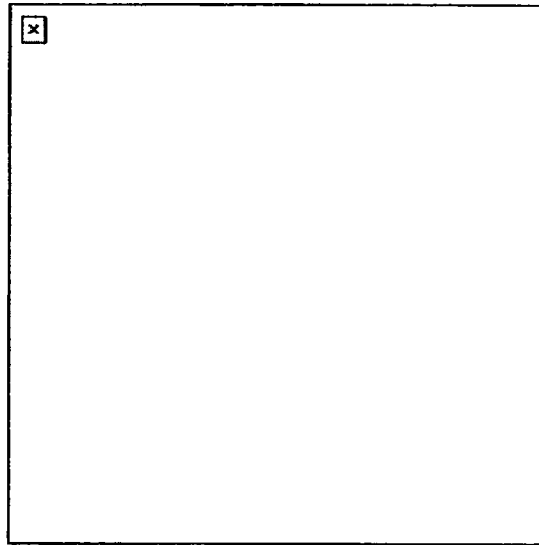

Figure 191-381-1258-2
3. Execute a squad echelon-right formation (Figure 191-381-1258-2).